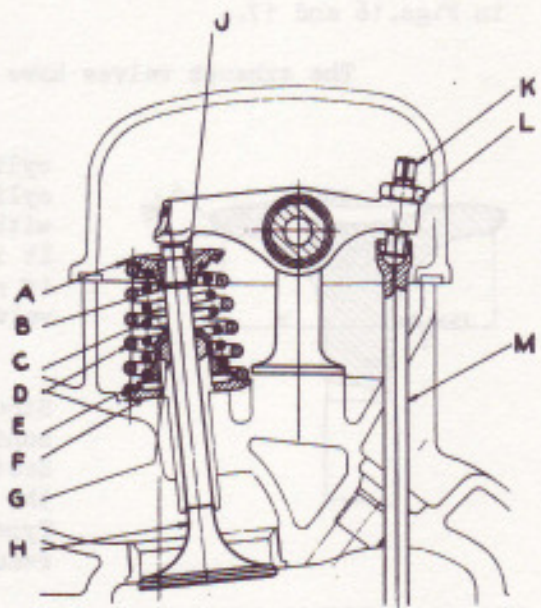

FIG 15. ARRANGEMENT OF INLET VALVE.
down the fulcrum pillar (B) on to the stud. Place the stirrup (C) over the top washer (A, Fig.15) of the valve and lock slide in position by means of the thumb screw.
Replace the outer washer (See Fig.15) followed by a new valve stem packing and the inner washer.